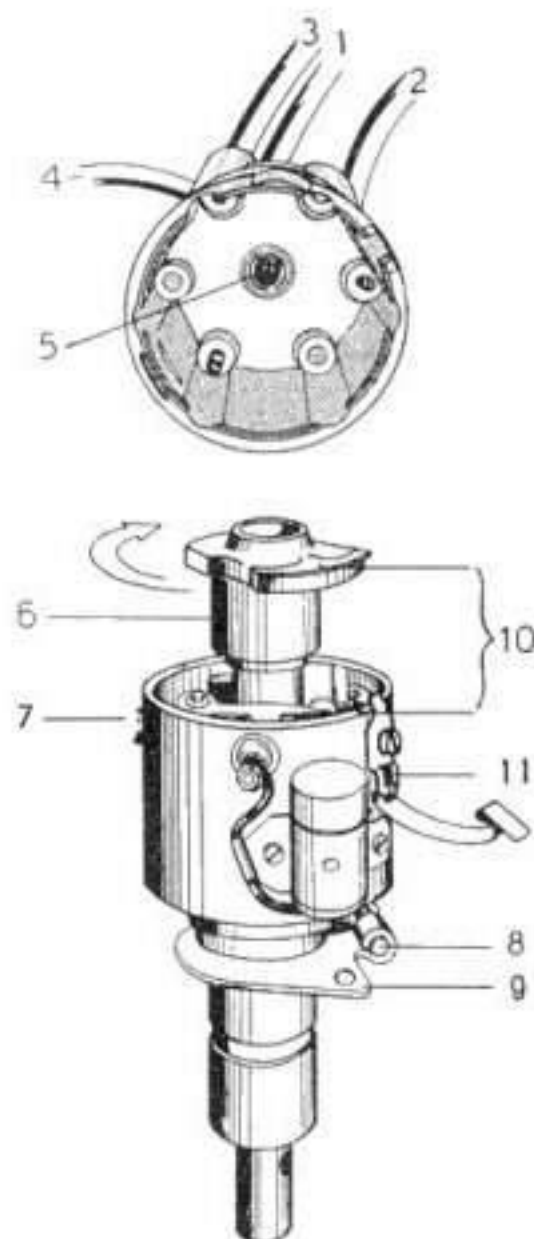

Fig. 28. Ignition Distributor
The ignition distributor is mounted to the right on the engine. The rotor is driven by the crankshaft via a worm gear and a pinion. It rotates clockwise and as shown in fig. 28, the firing sequence is 1—2—3 (No. 1 cyl. being the rear one).
2. The index of the rotor should now coincide with the index of the distributor body. This index is located on the rear side of the body and to the left of the guide lug which also serves as a support for one of the clamp springs. See fig. 28.
- a. Turn the crankshaft until the piston of cylinder 2 is 10° before T.D.C. (See item 3 above). Note, that the indexes on the rotor and distributor body should coincide, see fig. 28.
- b. Loosen screw 8, fig. 28, and turn the distributor until the breaker points open. Make certain that the advance regulator weights are retracted.